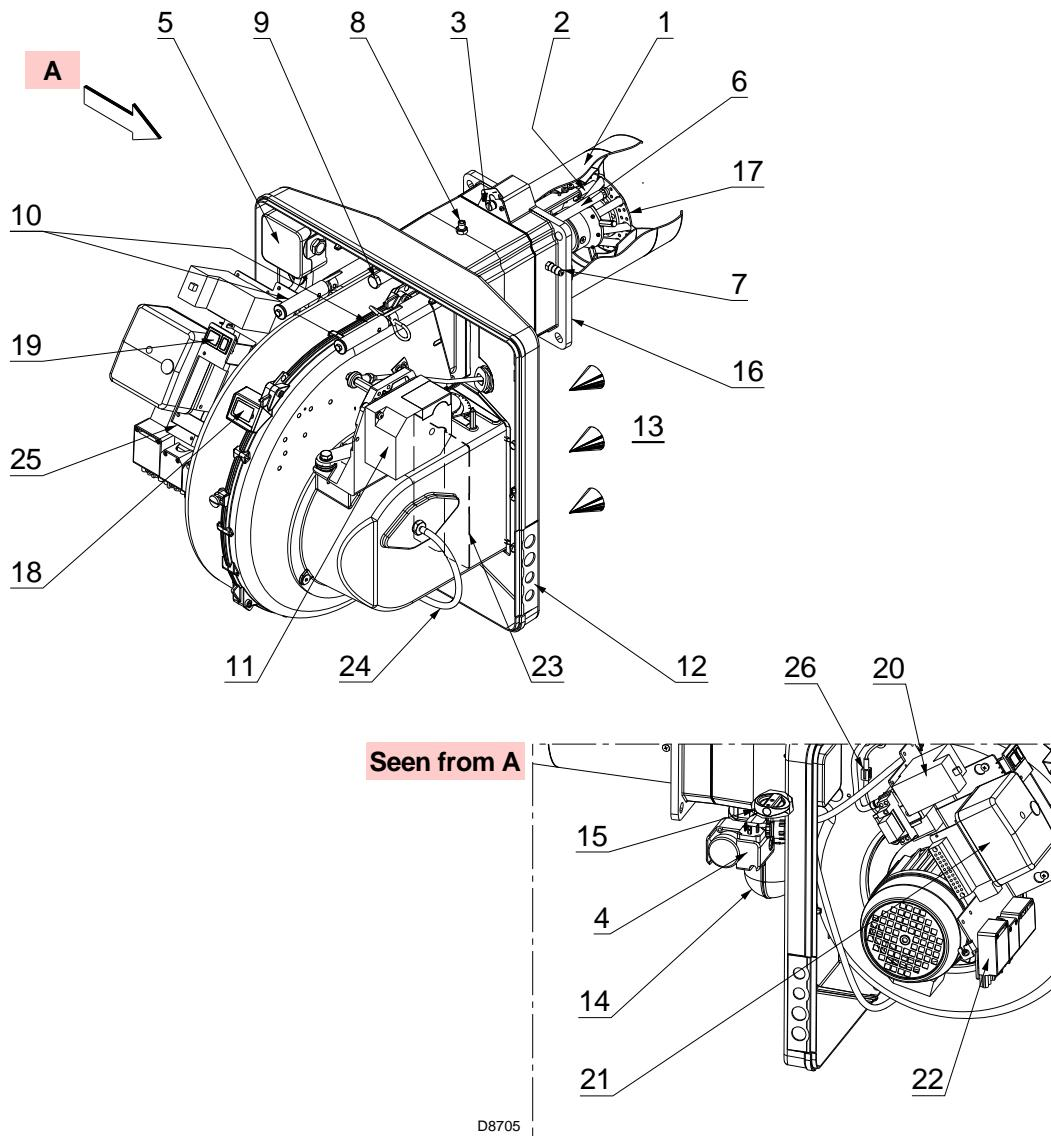

Fig. 5
(1) Reference conditions: Ambient temperature 20°C - Gas temperature 15°C - Barometric pressure 1013 mbar - Altitude 0 m above sea level.
(2) Gas pressure on the pipe coupling test point 8 (Fig. 5) with zero pressure in the combustion chamber and at maximum burner output.
(3) Sound pressure measured in manufacturer's combustion laboratory, with burner operating on test boiler and at maximum rated output. The sound power is measured with the "Free Field" method, as per EN 15036, and according to an "Accuracy: Category 3" measuring accuracy, as set out in EN ISO 3746.